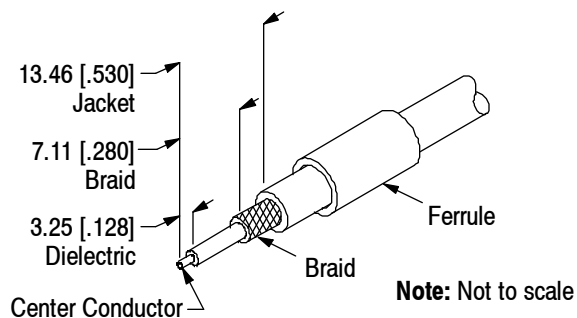

Figure 2
- Slide the ferrule onto the cable. Strip the cable according to the dimensions provided in Figure 2. Be careful not to nick or cut the center conductor or braid. Flare the braid.
5. Crimp the ferrule with the appropriate tooling and setting (refer to Figure 2).